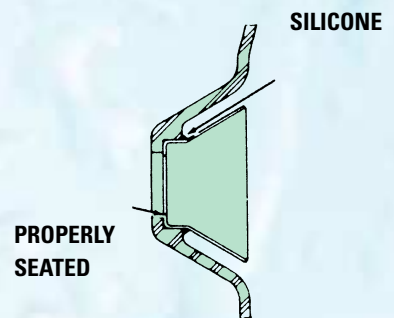

Fig. 8
D. Remove surplus silicone FITV from insert cavity (see Fig. 8).